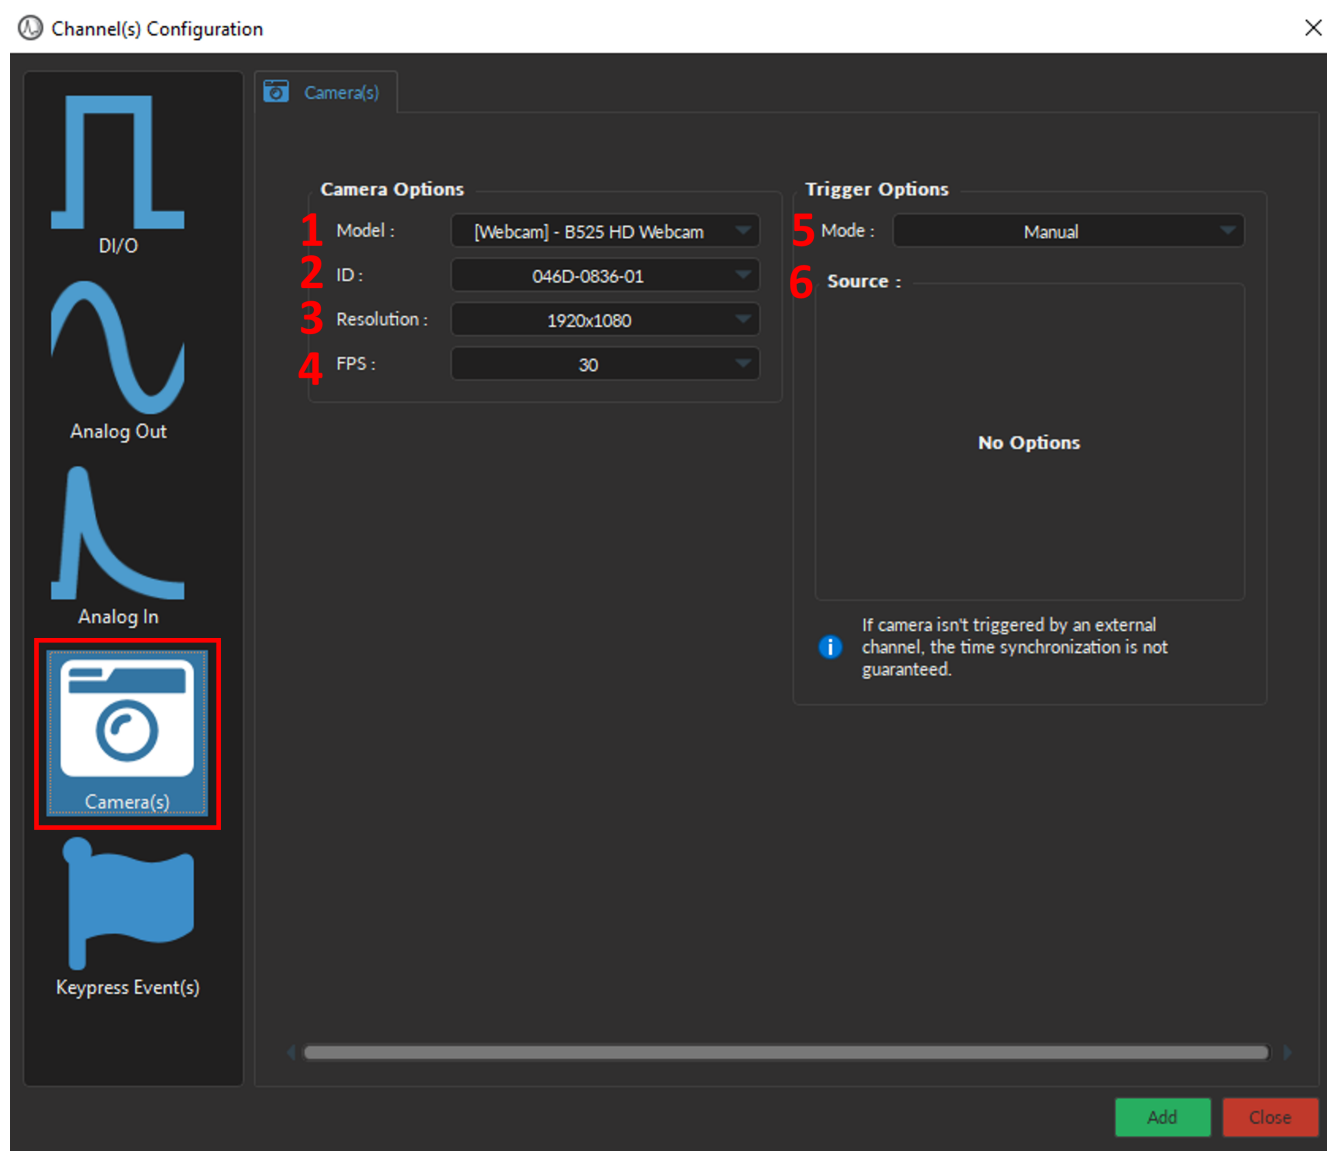

Figure 5.37: Channel(s) Configuration, Camera
1. The **Model** (Fig. 5.37, 1) allows you to select the camera of choice based on the type of camera.
2. **ID** drop-down list (Fig. 5.37, 2) is used to select a camera based on its unique ID. The ID is particularly useful if multiple cameras of the same model are required for the experiment.
3. The **Resolution** (Fig. 5.37, 3) is used to set the image size. The larger the number of pixels used for width x height, the better the resolution. Currently, image size can range between 160x120 to 1920x1080 pixels.
4. The **FPS** (Fig. 5.37, 4) is used to specify the frame rate of the camera (i.e. the number of images displayed per second). FPS can be any value between 5-30 for web cameras and up to 60 FPS for the *Doric Behavior Camera*.
5. The **Mode** (Fig. 5.37, 5) sets the type of trigger that will control the camera. Depending on the type of camera, at most three modes are available:
6. The **Source** (Fig. 5.37, 6 & Fig. 5.39) is only used for the **External (Preconfigured)** mode, and displays the **Digital I/O** channel with the preconfigured parameters that will be created at the same time as the **Camera Channel** (Fig. 5.39). For a detailed description of each Digital I/O parameter see the corresponding section in the Fiber Photometry System Manual. Briefly, key parameters include: